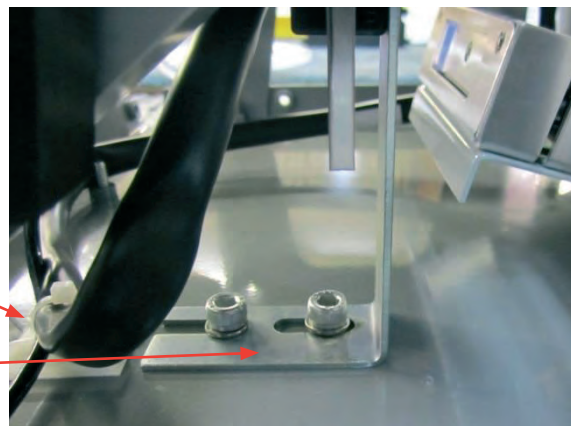

**FIGURE-4. INSTALLATION OF THE PRESS ARM SWITCH ASSEMBLY**
- CAREFULLY INSTALL THE NEW PRESS ARM SWITCH INTO THE BOTTOM OF THE CHASSIS AS SHOWN IN FIGURE-4.